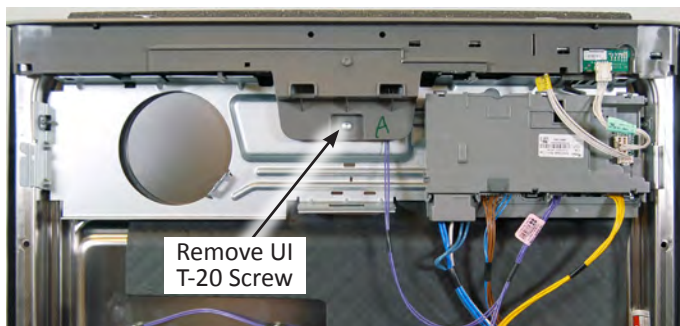

Figure 1
3. On some "early" models, it will be necessary to first remove the UI assembly to access the door latch assembly (see Figure 1).